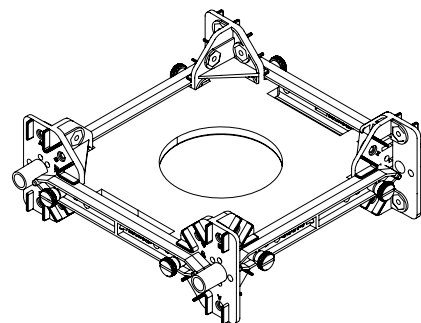

Figure 5: Floor construction, third step.
- Add two additional half round connectors at the remaining corners of the foam floor and attach them using additional #3 I-beams and truss set screws, as shown in Figure 5. Note that the cross-bar on each I-beam should face outward.